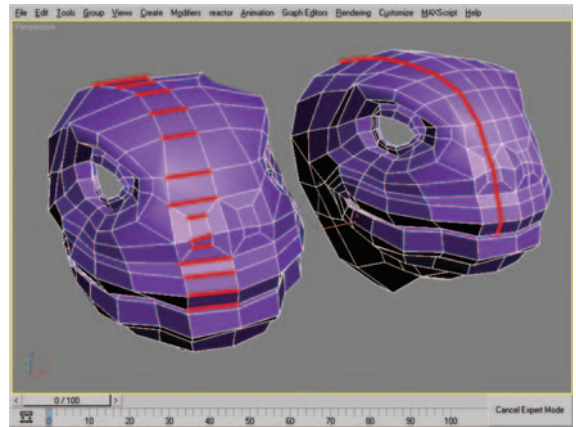

Figure 9.36 Edge selection and new row of edges resulting from Connect.
37. Select the edge ring shown in Figure 9.36 (left) and use Connect to create a new row of edges (Figure 9.36, right).